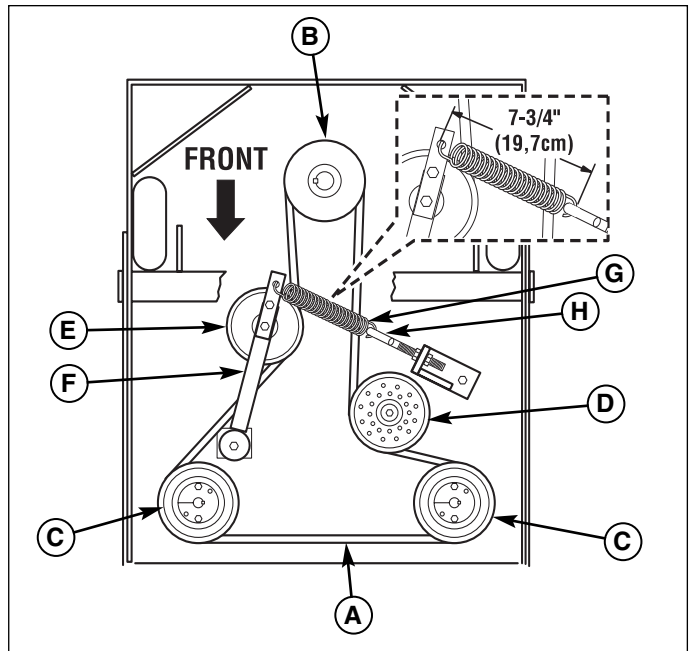

Figure 31. Hydraulic Pump Drive Belt Replacement (Shown from Below)
3. Loosen the nut towards the front of the machine on the spring anchor hook (H, Figure 31) to release the majority of the belt tension. Use caution and remove the nut to completely release the tension.
5. Reinstall the anchor hook (H) into the anchor tab and loosely fasten the nut. Adjust the spring until a measurement of 7-3/4" (19,7cm) is achieved from the outside of the spring hooks. Tighten nut.